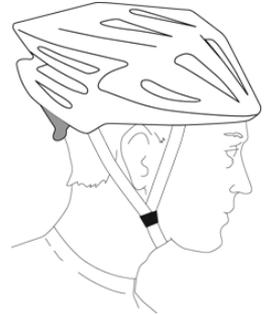

Figure 1
2. Always wear a cycling helmet which meets the latest certification standards and is appropriate for the type of riding you do. Always follow the helmet manufacturer's instructions for fit, use, and care of your helmet. Make sure that your helmet is snug and level on your head (see Figure 1). Most serious bicycle injuries involve head injuries which might have been avoided if the rider had worn an approved, properly aligned, and properly secured helmet. Some regions have laws requiring helmet use.